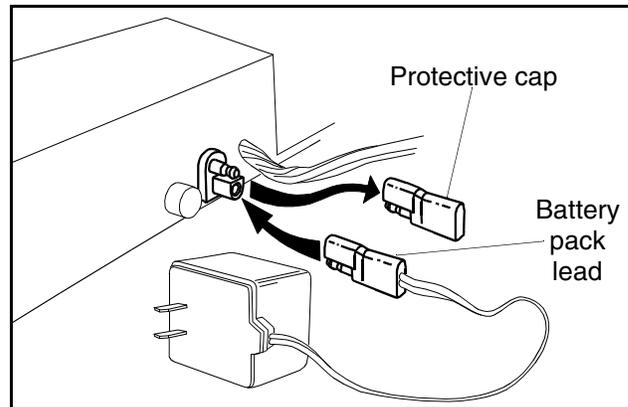

Figure 18
- Remove the protective cap from the end of the battery pack lead. *Always plug charger lead into battery pack lead first, and then insert battery charger plug into 120 volt standard household outlet.* See Figure 18. Follow this order of action every time you charge the battery.